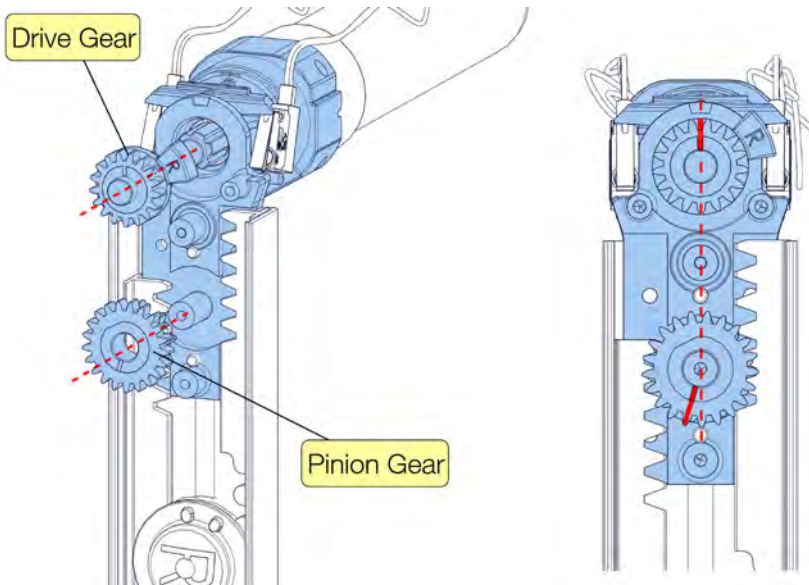

Fig. 23.4.4.1-1.5
7. Ensuring the countersunk side is face up, place the cover plate into position, lining up to the shafts of the housing. *Refer to Figure 23.4.4.1-1.8.*
8. Insert 3 screws, $\varnothing 2.80 \times 12\text{mm}$, 304 S/S No.1 Phillips's drive countersunk heads, through cover plate, starting with the bottom screw. *Refer to Figure 23.4.4.1-1.9.*